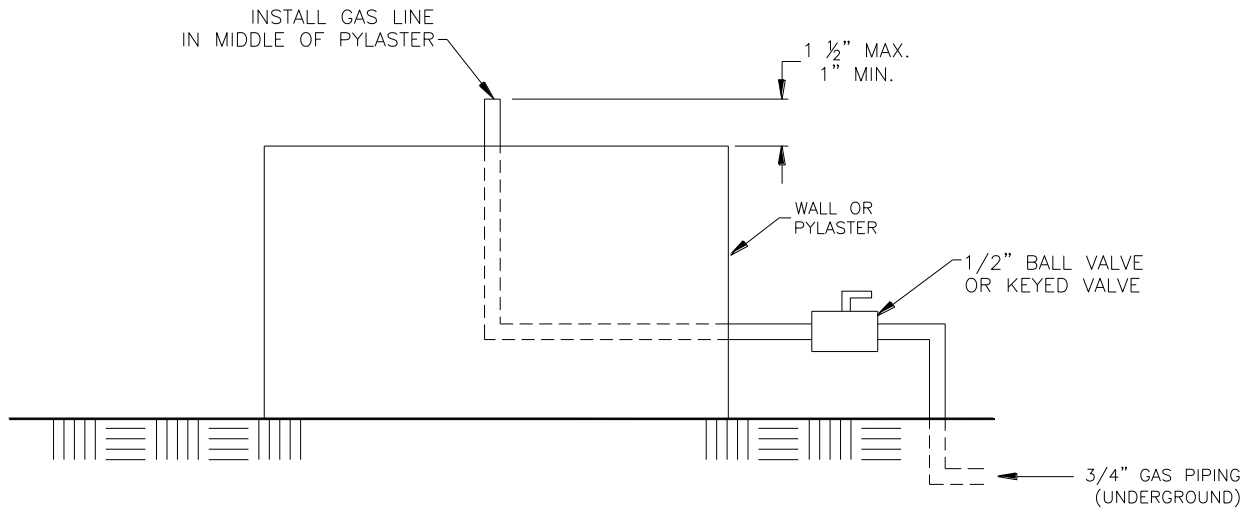

Figure 1
- 2.5 Install the Grand Effects Unit as shown in Figures 1, 2 & 4. Figure 3 is an optional configuration to catch dirty run-off water.
- 3.12 The height of the flame can be adjusted by opening or closing the ball valve as shown in Fig. 1.